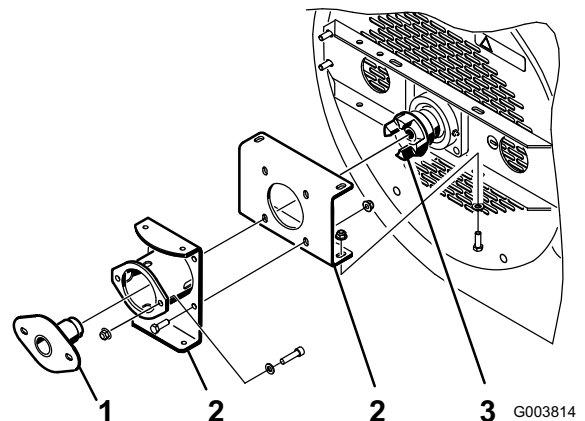
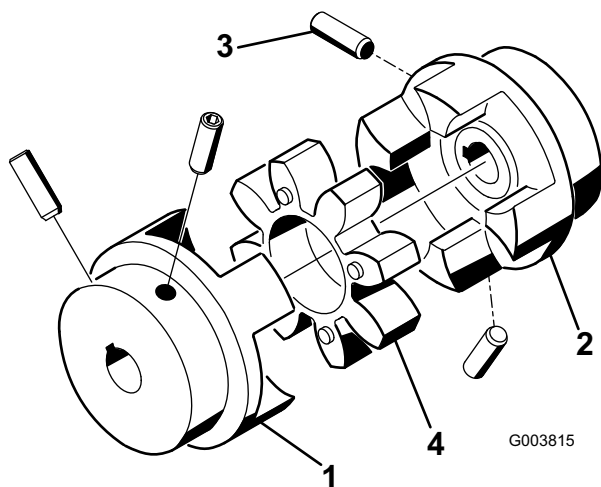

Figure 9
Figure 10
1. Make sure the mounting brackets are installed to the blower housing but capscrews and nuts are loose (Figure 9).
2. Insert the bearing alignment tool through the mounting brackets and into the fan coupler (Figure 9). Make sure the spider coupler (Figure 10) is not in the coupler.
- The set screws securing the motor and fan shaft couplers (Figure 10) must be torqued to 58 to 82 in-lb.